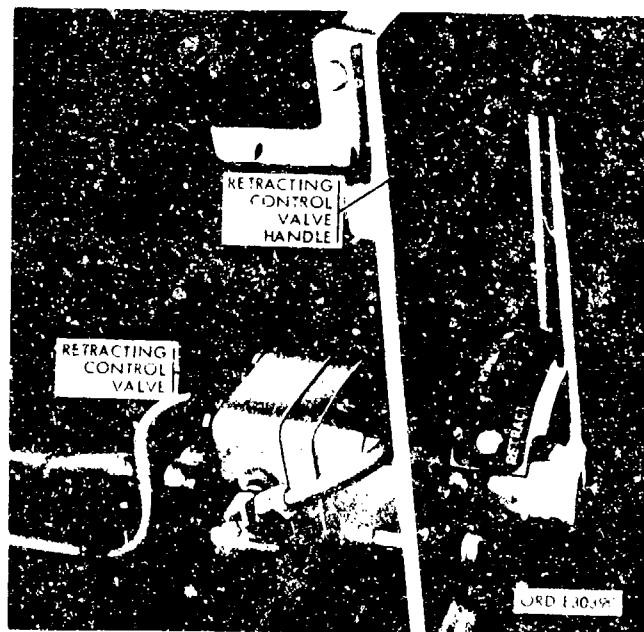

Figure 8-7. Retracting control valve handle.
*b. Retracting control valve handle.* The heavy cannon tube is moved hydraulically in and out of battery by means of the retracting control valve handle (fig 8-7) located on the right rear of the cradle. The cannon tube should never be moved out of or into battery position by means of this retracting control valve handle unless the cradle is secured to the deck of the weapon by the travel lock (fig 8-6). Additional information on this handle and how it is used with the recoil mechanism is given in paragraph 8-9e.
*e. Retracting control valve.* A three-position (RETRACT, NORMAL AND HOLD, and RETURN) detent valve (fig 8-7), located at the right rear of the cradle, actuates the recoil cylinder to retract the weapon tube into travel position and to connect the replenisher cylinder to the recoil cylinder during firing. Placing the retracting control valve handle in the RETRACT position actuates the recoil cylinder to retract the cannon tube into the travel position. Placing the retracting control valve handle in the RETURN position returns the cannon tube to battery and charges the recuperator cylinder. Placing the retracting control valve handle in the NORMAL AND HOLD position holds the cannon tube in the traveling or firing position.
**WARNING:** The retracting control valve handle should not be operated unless the travel lock is engaged in the traveling position (fig 8-7).